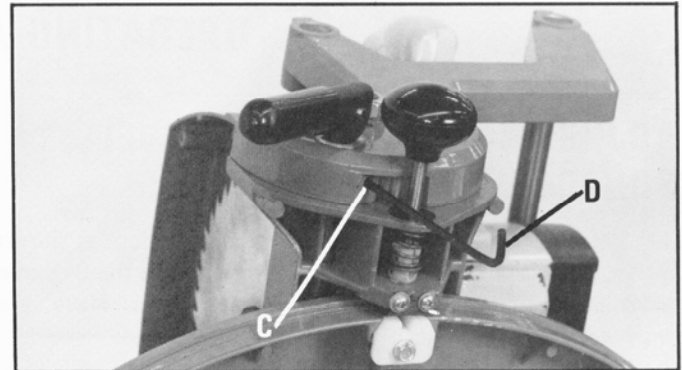

Fig. 30
3. If the blade is not at 90 degrees to the table, turn screw (C) with wrench (D) Fig. 30, until the blade is at 90 degrees to the table.